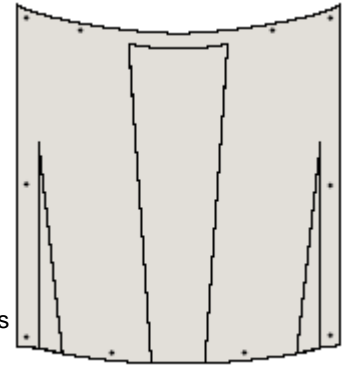

Figure 1
2. Figure 1 indicates the recommended locations for the 90 degree mounting plates. Some vehicles may require different positioning based on vehicle design. Keep in mind that you want to eliminate air from entering under the front edge and lifting the panel, which in some instances could cause breakage, impaired vision and serious safety concerns at speed.